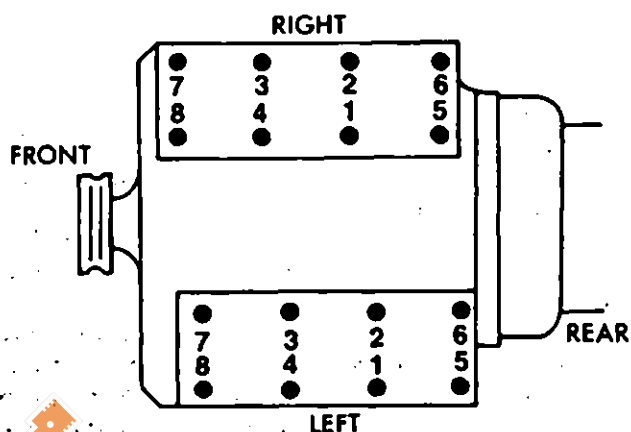

Fig. 12—Cylinder Head Bolt Tightening Sequence
(11) Lightly oil the threads and install the cylinder head bolts.
(12) Starting with bolt No. 1, pretighten all bolts in sequence to 60 N·m (44 ft-lbs) torque (Fig. 12).
(23) Lightly oil the threads and install the cylinder head bolts.
(24) Starting with bolt No. 1, pretighten all bolts in sequence to 60 N·m (44 ft-lbs) torque (Fig. 12).
(25) The following procedure is performed on all bolts, one bolt at a time.